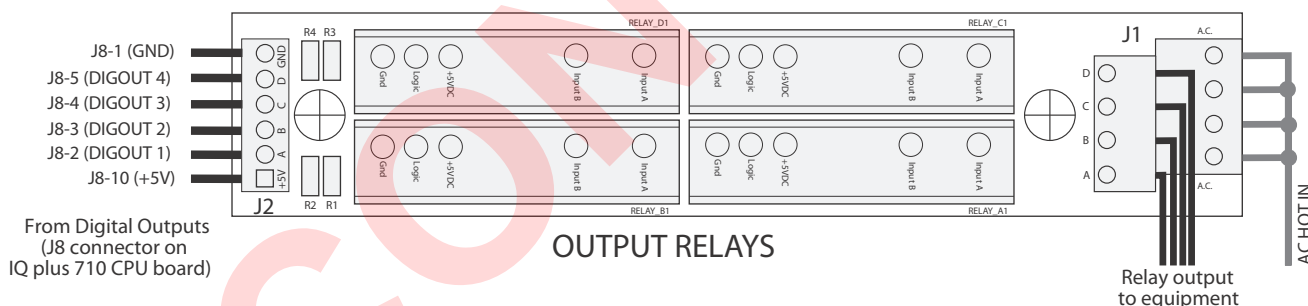
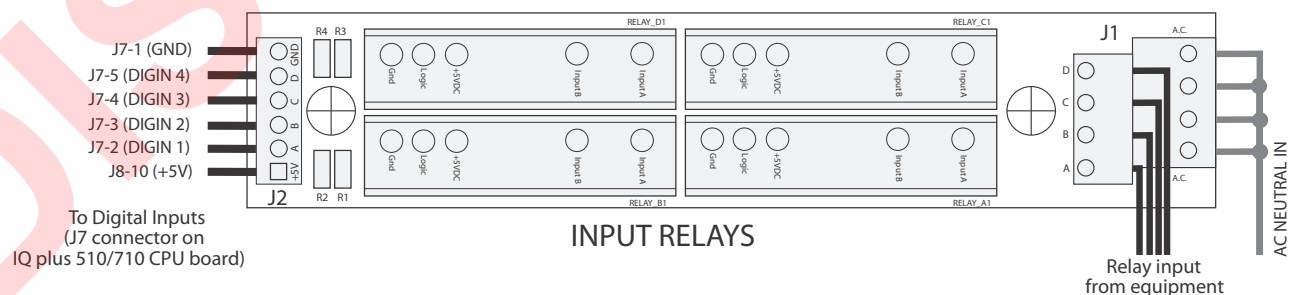
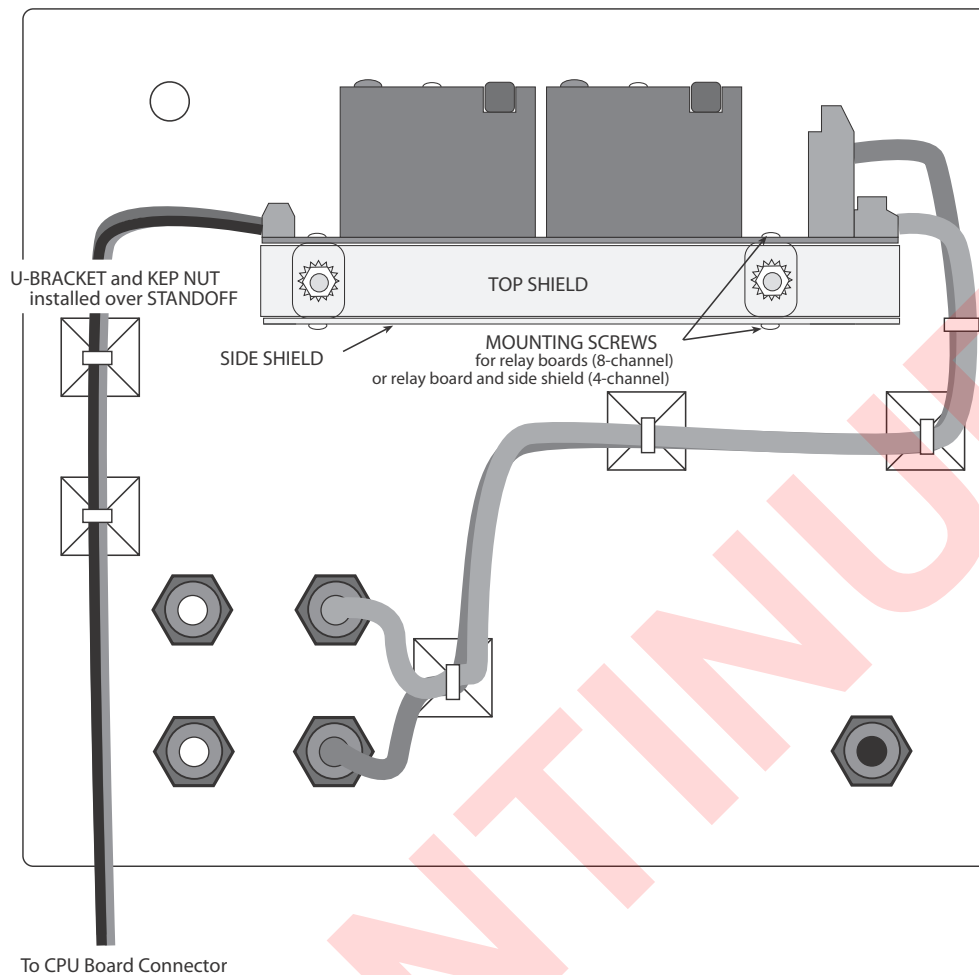

Figure 1. IQ plus 710 Output Relay Wiring
Figure 2. IQ plus 510/710 Input Relay Wiring
Figure 3. Indicator Backplate, Showing Installed 4-Channel Relay Rack, Mounting Hardware, and Cable Routing
3. Install standoffs onto the studs on the indicator backplate. Mount U-brackets on the standoffs, place protective shield on top of brackets, place protective shield on top of brackets, and secure with kep nuts (see Figure 3 on page 2).
4. For IQ plus 710 indicators using output relays, remove connector J8 from the CPU board and wire the relay board to the connector as shown in Figure 1.
For IQ plus 510 or 710 input relays, remove connectors J7 and J8 from the CPU board and wire as shown in Figure 2.
5. Loosen cord grips and route cables for external equipment into the enclosure as shown in Figure 3 on page 2. Attach cables to relay board as shown in Figure 1 or Figure 2.
6. For 4-channel (single-board) relay options, mount the relay board to the U-brackets as shown in Figure 3 and secure with two of the screws provided. Use the remaining two screws to attach the second protective shield to the opposite side of the U-bracket.
8. Use cable ties and mounts to secure cabling to the inside of the indicator enclosure as shown in Figure 3.